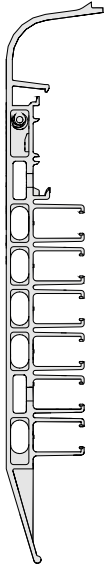
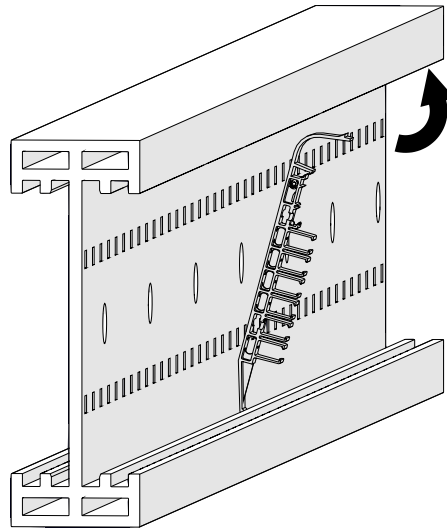

Fig. 7: Hanger clamps 0815
Fig. 8: Clip in rail holder
- The rail holders (item 3) have a molded receptacle for the positioning band profile (item 2). When clipping in the rail holders, make sure that the molded receptacle points upwards (see Fig. 7 and Fig. 8).